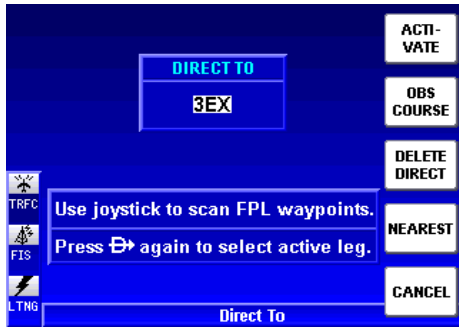

Figure 1-144
1. Press the Direct-To Key to display Figure 1-144.